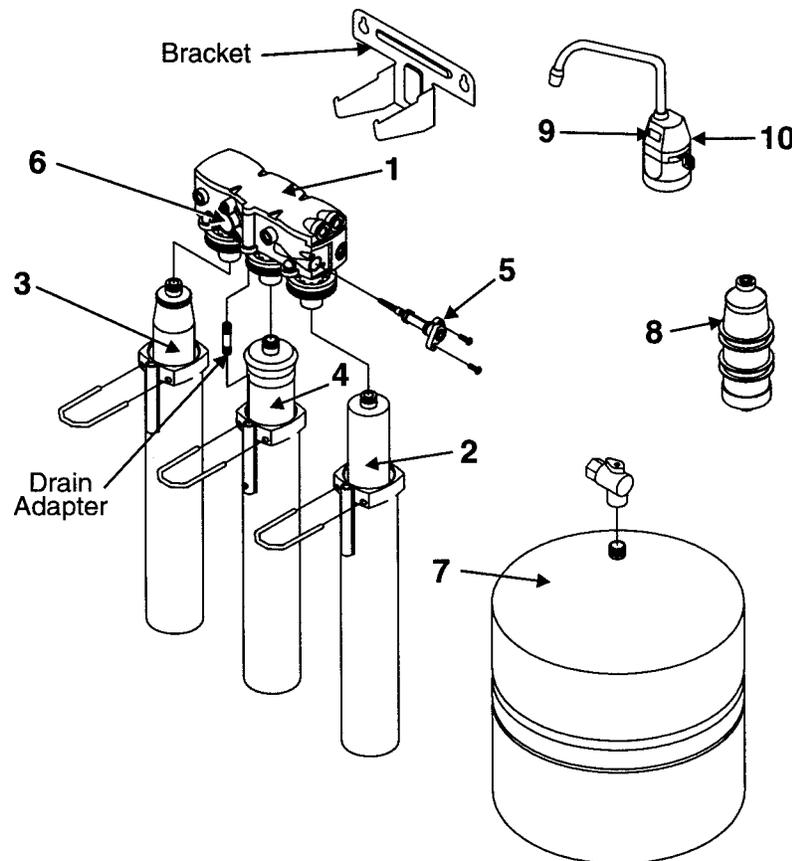

FIG. 2
The manifold assembly Fig. 2 item (1) serves as the functional hub (Fig. 2) of the Aqua-Clear/Good Water Machine system by directing the flow through each of the system’s main components.
To help assure quick and trouble-free installation of the Aqua-Clear® system, the following preparation steps should be performed in the dealer facility. Refer to Fig. 2. Cleanliness is essential in the In-Plant Preparation procedure. Be sure to wash your hands thoroughly before handling filters. The use of surgical gloves is strongly recommended.